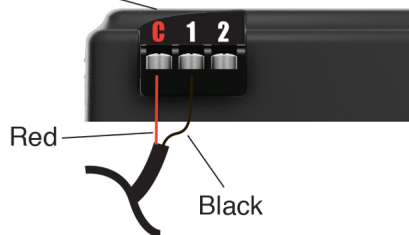

FIGURE 5
3. Secure the sensor to the discharge pipe at the desired alarm level (the alarm level will be when the liquid touches the metal at the bottom of the probes). See Figure 5. Note: Use a tie strap to further secure the cable to the discharge.